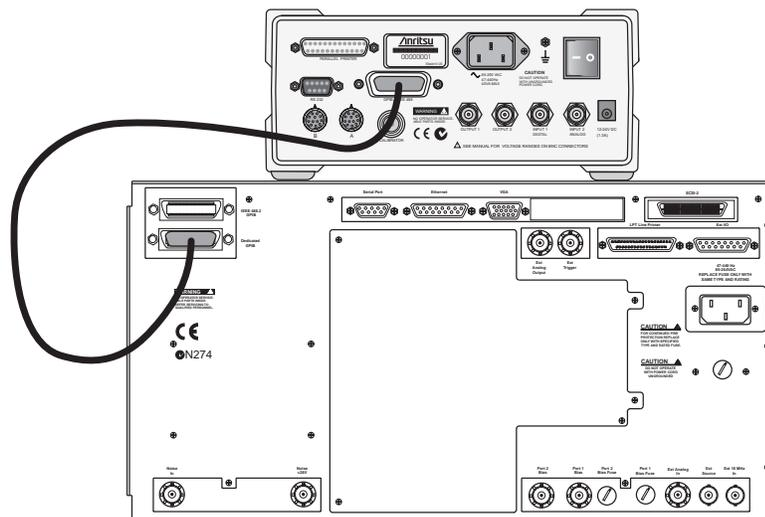

Figure 6-1. ML2430A Series Power Meter GPIB connection to the MS462XX Vector Network Measurement System
- Step 1.** Connect a GPIB cable between the power meter GPIB connector and the MS462XC dedicated GPIB connector, as shown in Figure 6-1.